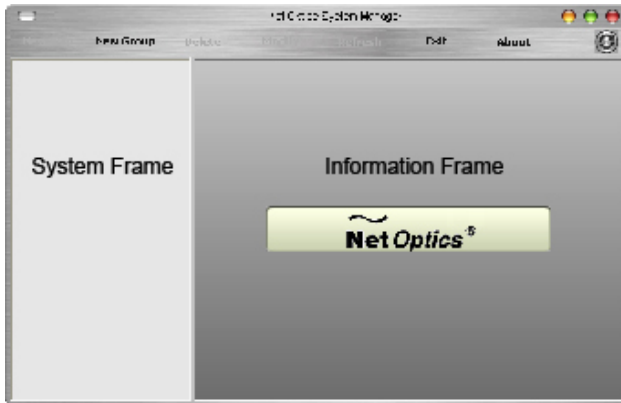

Figure 22: Initial window
1. Double click the System Manager icon on your PC desktop. The initial window, shown in Figure 22, will not show any iTaps.